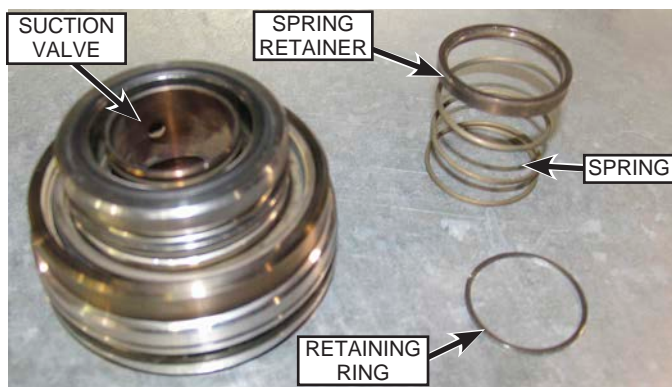

Fig. 96: Suction Valve Installation
3. Position the suction valve in the valve body as shown in Fig. 96.